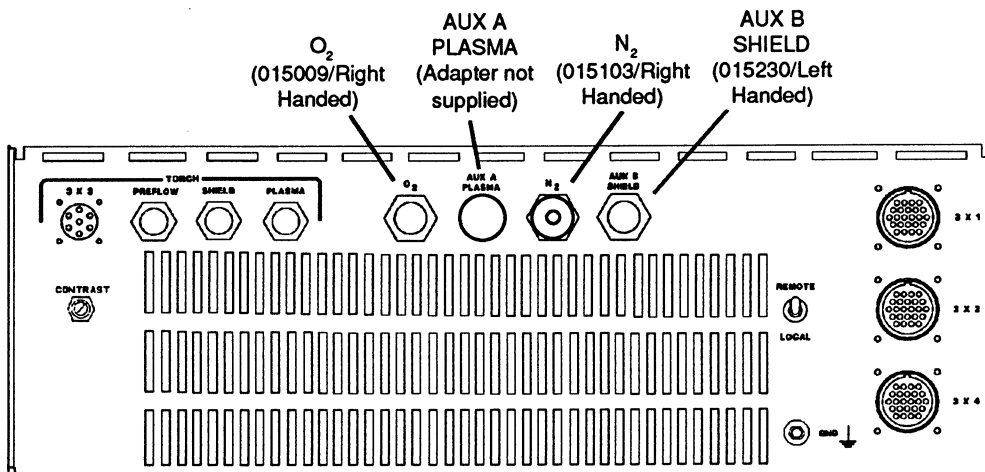

Figure 5 Install New Gas Fittings
3. Install the new gas fittings as follows: 015009 in O₂, 015103 in N₂ and 015230 in AUX B. Use a 5/8- inch wrench on the O₂ and AUX B fittings and a 3/4- inch wrench on the N₂ fitting (Fig. 5). **If the user needs to use the AUX A port, ensure the adapter fitting is different than the O₂ 015009 fitting, so that oxygen cannot be accidentally connected to the AUX A port. The fittings on the gas supply hoses may have to be changed in order to be connected to the new fittings installed on the gas console.**